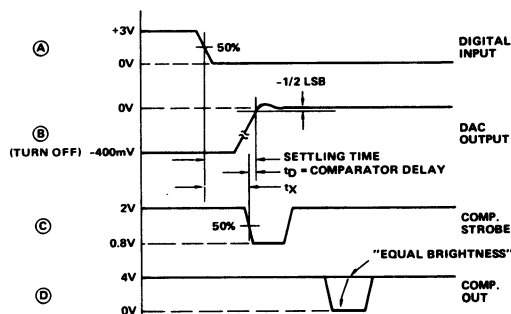

Figure 3B
- Adjust the V_{LSB} supply for 50 percent triggering at COMPARATOR OUT. This is indicated by traces of equal brightness on the oscilloscope display as shown in Figure 3B. Note DVM reading.
- Switch the LSB to Pulse (P).
- Measure t_x from scope as shown in Figure 3B. Settling time equals $t_x + t_n$, i.e. $t_x + 15ns$.